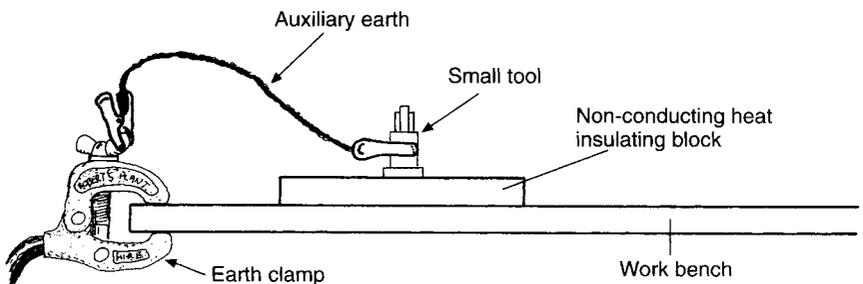

Fig. 6.35
- An 'auxiliary earth', which is two copper tipped, heavy duty crocodile clips held together by an 18" (460mm) length of light duty copper cable to hold and earth delicate tools; see Fig. 6.35. Small and delicate tools tend to suffer most from earthing arc marks because they do not have the weight to hold a good connection.
- A hard piece of non-conducting heat insulating material 6" × 6" × 1" (150 mm × 150 mm × 25 mm) on which I rest tools when using the auxiliary earth to stop the tools earthing onto the work bench; see Fig. 6.35.